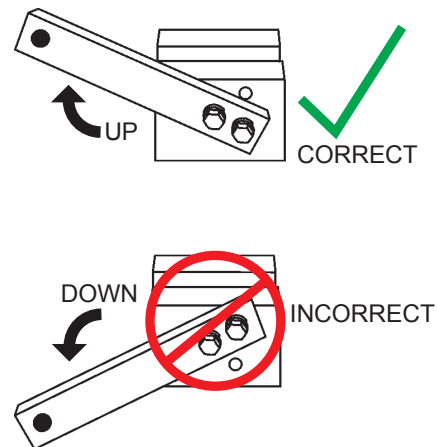

Figure 68. Fixture Arm Position (UP)
2. Make sure the fixture arm is in the **UP** position (Figure 68).